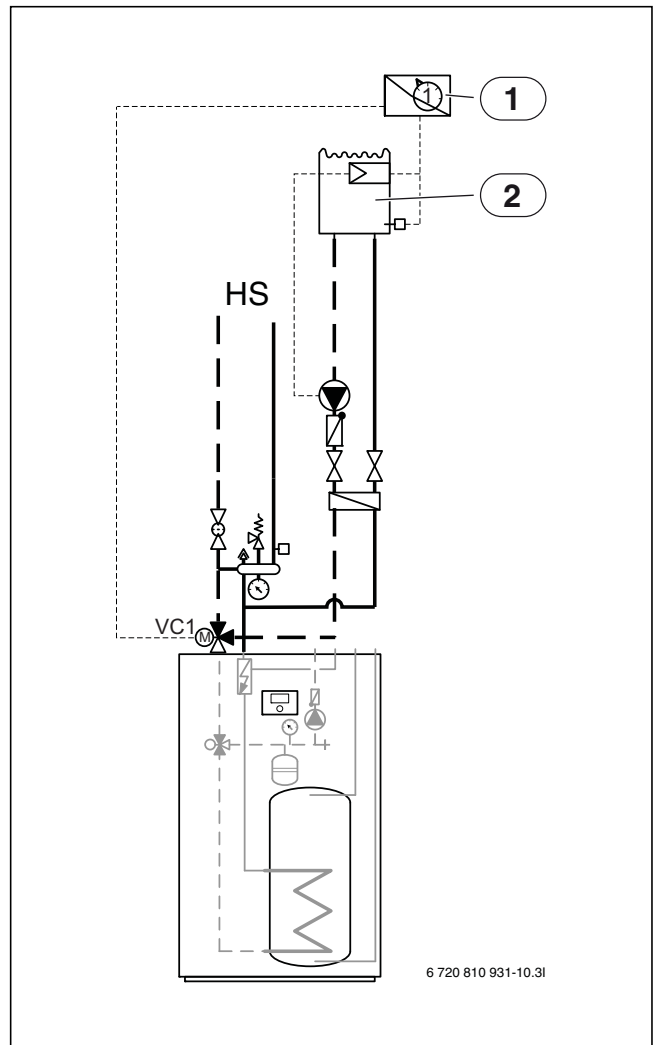

Fig. 12 Pool installation example
- ▶ Install the mixing valve for pool on the return pipe to the heat pump module (→ [VC1] Bild 12).